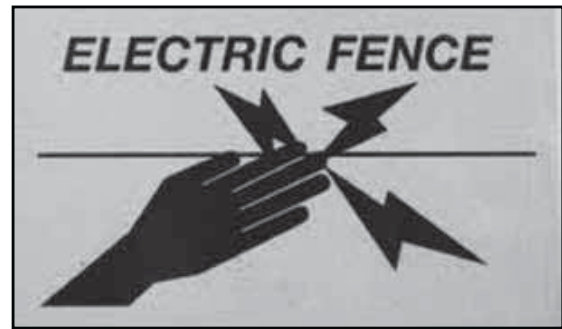

Figure 1: *Symbol for a non-lethal electric fence warning sign*
3. A symbol of a black hand touching a wire with flashes (See Figure 1);